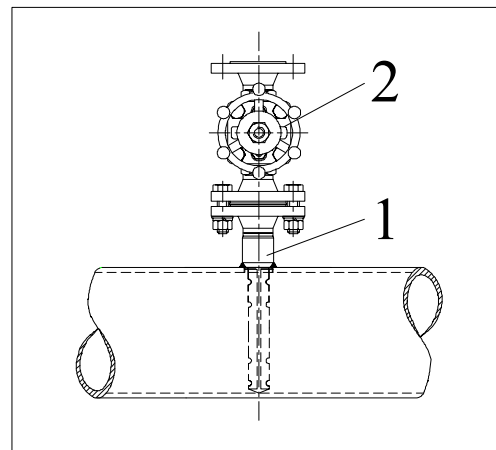

Fig. 12: mounting stud with isolation valve
6. Fasten unit isolating valve {2} to the mounting flange and open valve. Verify that the stem is in position as shown in figure 12 to insure clearance for the insert-retract rods.